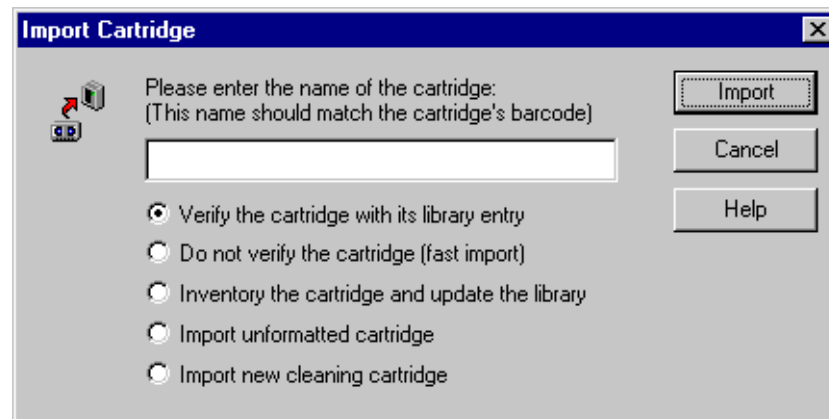

Figure 61. Import Cartridge dialog box
2. Choose **Import** from the **File** menu or from the shortcut menu with a right-click. The Import Cartridge dialog box appears (see Figure 61). If you have more than one PLS20 systems connected simultaneously, you must enter a drive number when prompted.